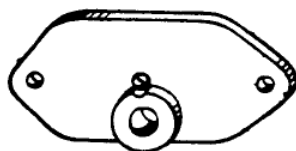
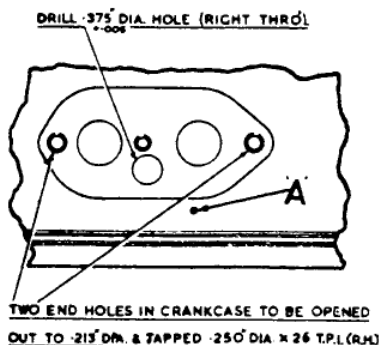

FIG. 6. DRILLING TEMPLATE - CRANKCASE OIL RELIEF VALVE FACING.
FIG. 7. SCRAP VIEW SHOWING DRILLING ETC. OF CRANKCASE OIL RELIEF VALVE FACING.
- (i) Remove the oil relief valve overflow pipe, (11/16"dia) from the interior of the crankcase, by twisting to shear the small securing taper pin. With a suitable punch tap out the remaining portion of the pin from the crankcase. For position of pin, refer to point 'A' Fig.7. Remove the sheared portions.
- (v) Place the drilling template R-4671 (Fig.6) in position against the oil relief valve facing of the crankcase and secure. Drill a .375" (9.5m/m) dia. hole through the side of the crankcase (See Fig.7) and remove the template. Remove the three 2-BA studs from the facing, and with the .213" (5.41m/m) dia. drill, open out the two OUTER stud holes and tap .250" dia. 26 T.P.I.-R.H. (See Fig.7.)